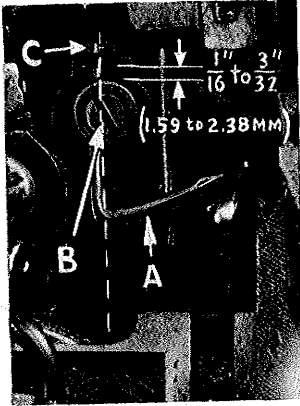

Fig. 9
Insert upper looper (A, Fig. 9) in its holder. Screw (B), holds upper looper in its holder, and permits it to be pushed in or out or turned around its shank. Insert upper looper holder into upper looper shaft, if it is not already in place. Screw (C), on clamp holds the upper looper holder in the shaft. Locate upper looper in its holder so that the shank extends  $1/16$  to  $3/32$  inch (1.59 to 2.38 mm) beyond holder (Fig. 9) for Styles 39500 QS, QT, RD, RL, RT, TJ, TM and TT. For Style 39500 TK the shank should extend  $1/8$  inch (3.17 mm) beyond holder.
When the upper looper is at the right end of its stroke, upper looper holder should be set to position upper looper shank approximately vertical on Styles 39500 QS, QT, RT, TJ, TM and TT (Fig. 9).